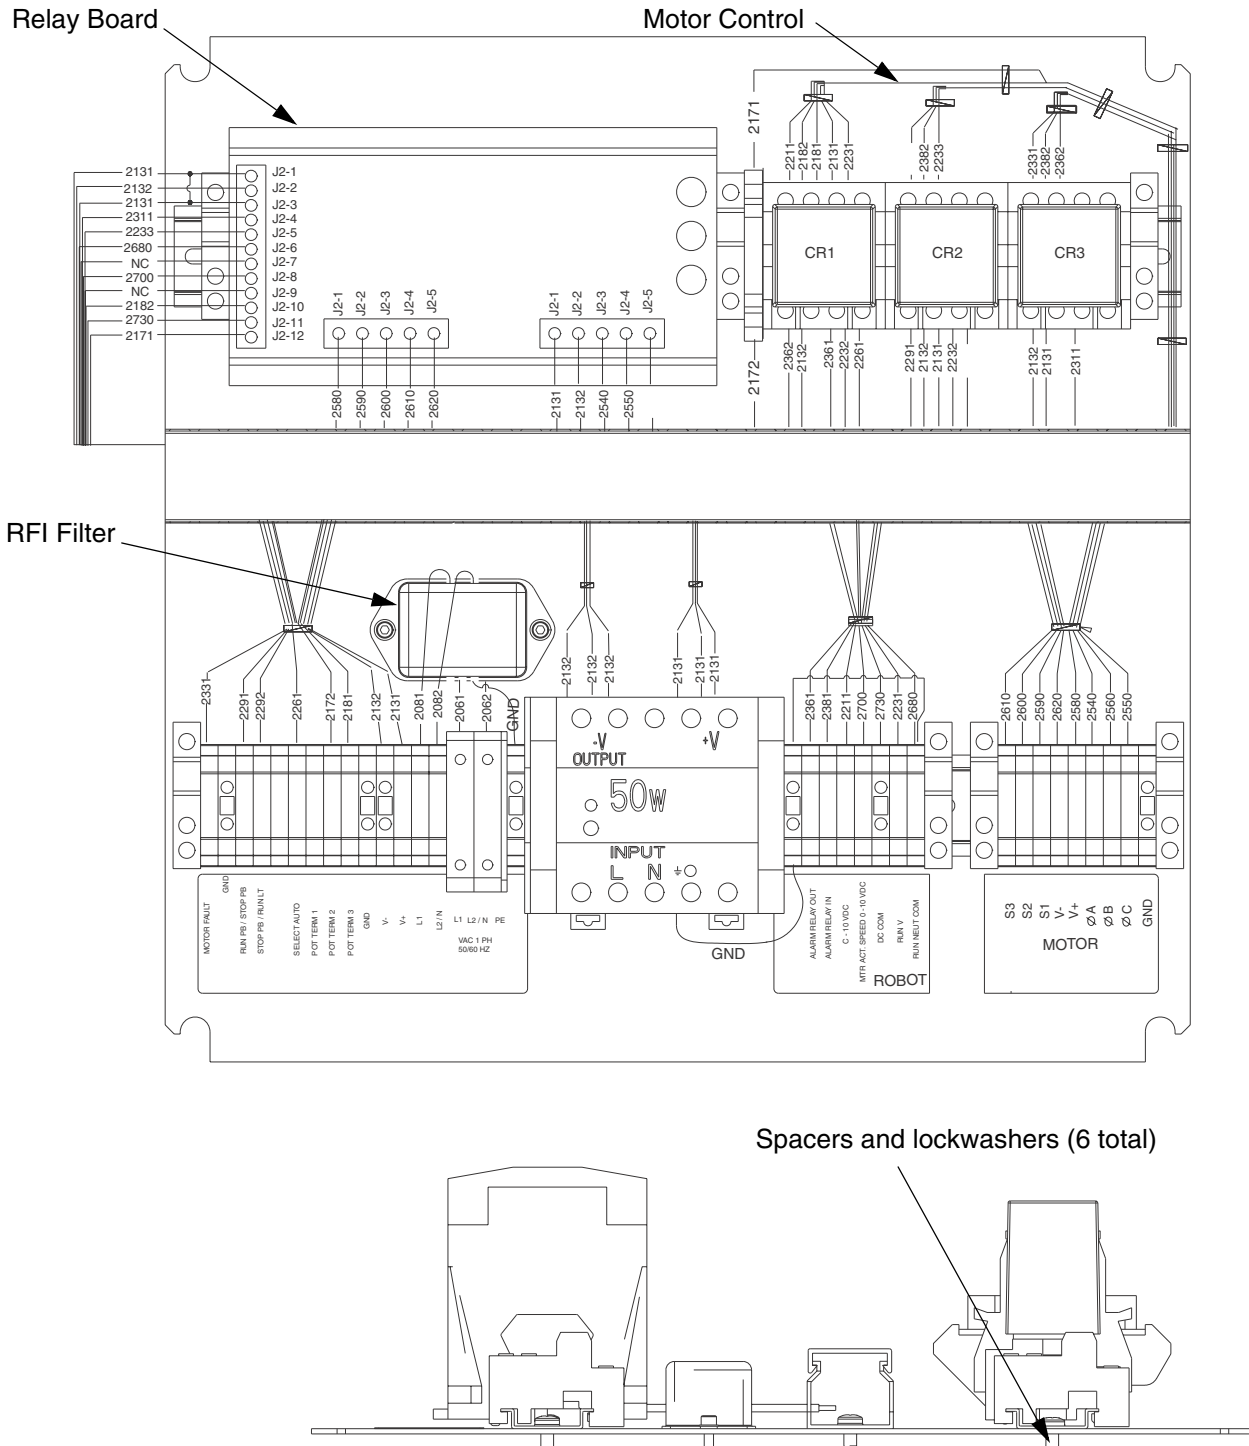

FIG. 17
2. Plug the connectors into the swirl control board. Refer to FIG. 17 for lead wire identification.
5. Remove the two screws and lockwashers from the RFI filter on the panel assembly. See FIG. 17.
1. Install the RFI filter using the two screws and lockwashers to secure the component on the panel assembly. See FIG. 17.
2. Connect the wires to the correct terminal block on the control board. Refer to FIG. 17 for lead wire identification.